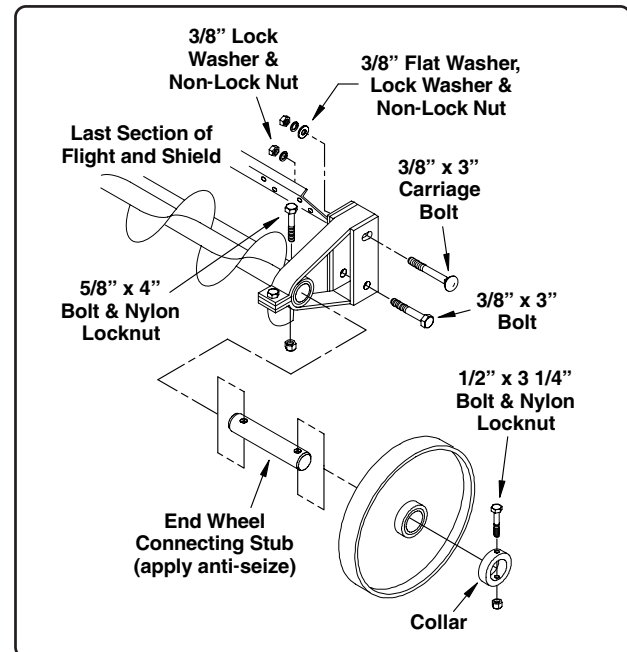

Fig. 16
- Position a bearing stand onto the end of the last shield and secure with the 3/8" x 3" carriage bolt and standard bolt as before (See Fig. 16). Apply anti-seize compound to the end wheel connecting stub. Insert the stub into the flight and secure using one 5/8 x 4" bolt and nylon locknut.
5. Install the end wheel as outlined in Step 8 and shown in Fig. 16 on the previous page (Page 20).